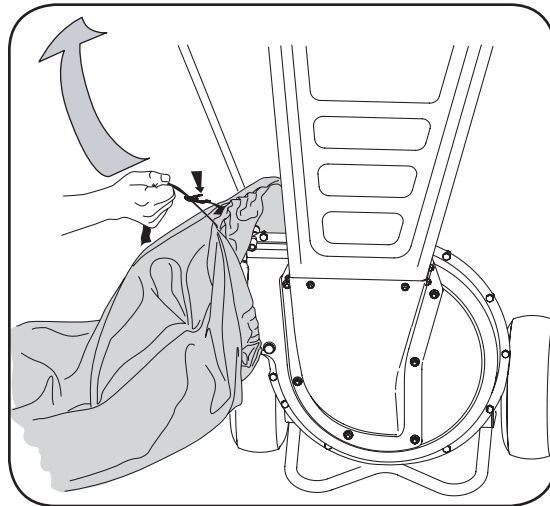

Figure 2
- Pull on the drawstrap until the bag is tight around chute deflector opening. See Figure 2.